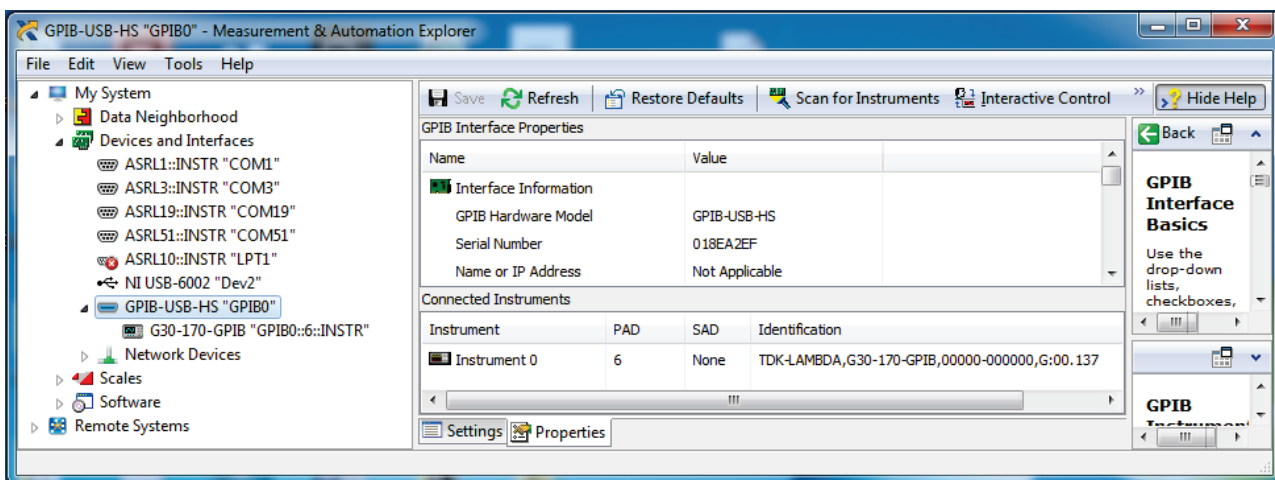

Figure 7-4: Scan for Instruments
3. In the GPIB Explorer toolbar, click Scan for Instruments. Refer to Figure 7-4.